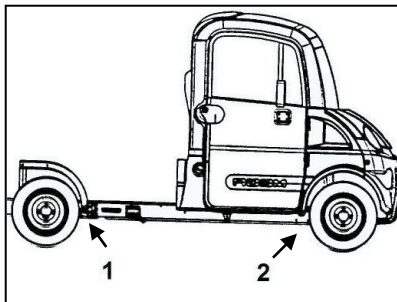

Figure 6.8.2
- Place the jack under the vehicle for the appropriate wheel to be changed; position 1 for rear wheels, position 2 for front wheels (Figure 6.8.2).